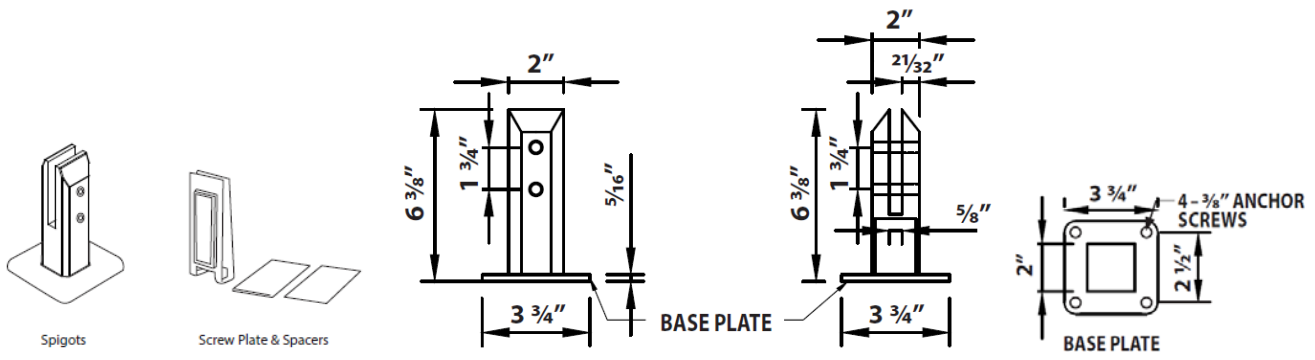

FIGURE 1 SPIGOTS AND SCREW PLATES
The Spartan Railing system consists of stainless-steel spigots (surface mount), monolithic tempered glass panels, glass connectors, and top rails. See Figures 1 through 3. The stainless-steel spigots, connectors and top rail are available in polished chrome and PVDF coated matte black finishes.
The spigots are composed of 2205 Duplex Stainless steel, plastic spacers (shims), plastic screw plate with a stainless steel face, spigot cover and (2) 5/8" x 5/32" (8 mm x 16 mm) machine screws. See Figure 1.